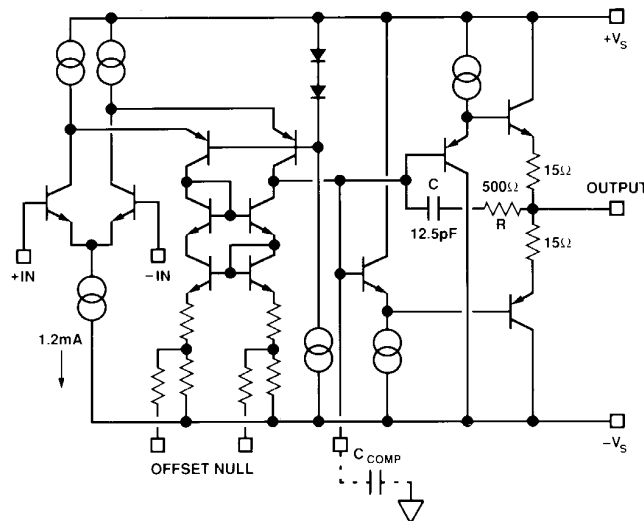

Figure 25. AD829 Simplified Schematic
The AD829 is fabricated on Analog Devices' proprietary complementary bipolar (CB) process which provides PNP and NPN transistors with similar  $f_T$ s of 600 MHz. As shown in Figure 25, the AD829 input stage consists of an NPN differential pair in which each transistor operates at 600  $\mu$ A collector current. This gives the input devices a high transconductance and hence gives the AD829 a low noise figure of 2 nV/ $\sqrt{\text{Hz}}$  @ 1 kHz.
An RC network in the output stage (Figure 25) completely removes the effect of capacitive loading when the amplifier is compensated for closed-loop gains of 10 or higher. At low frequencies, and with low capacitive loads, the gain from the compensation node to the output is very close to unity. In this case, C is bootstrapped and does not contribute to the compensation capacitance of the device. As the capacitive load is increased, a pole is formed with the output impedance of the output stage—this reduces the gain, and subsequently, C is incompletely bootstrapped. Therefore, some fraction of C contributes to the compensation capacitance, and the unity gain bandwidth falls. As the load capacitance is further increased, the bandwidth continues to fall, and the amplifier remains stable.